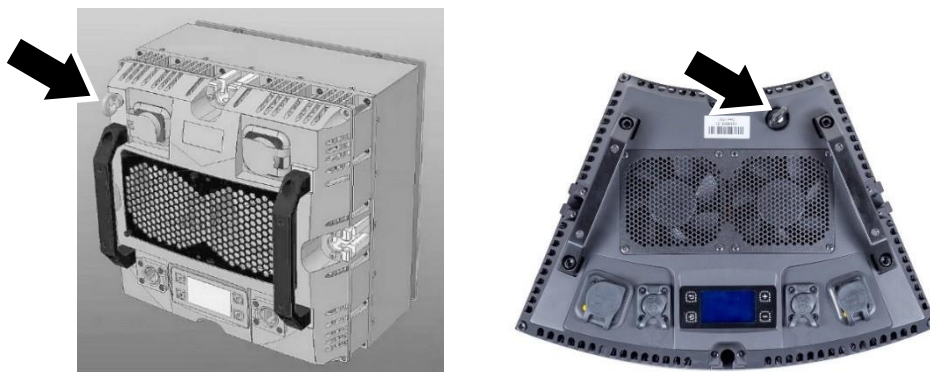

Figure 10. Safety cable attachment points
2. See Figure 10. Fasten the safety cable to the attachment eyelet (arrowed) in the back of the fixture and check that the fixture is now secured.